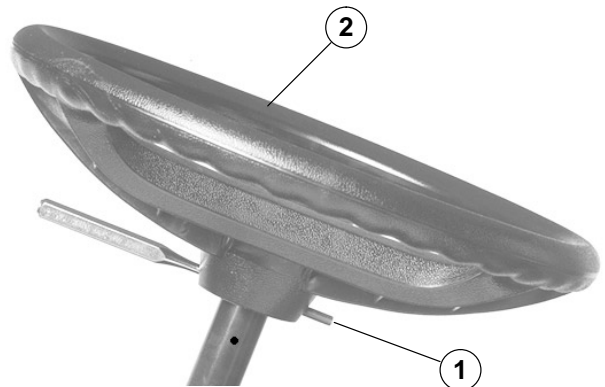

Figure 23
5. Remove roll pin from upper steering shaft with drift punch. Remove steering wheel from the shaft (Fig. 23).
5. Position steering wheel to the upper steering shaft. Secure wheel to shaft with roll pin (Fig. 23).